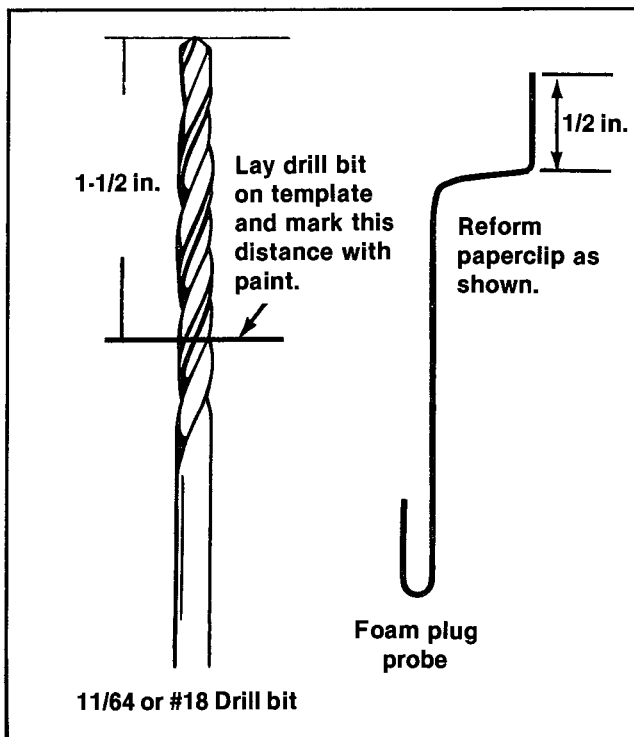

Figure 2. Template
11. See Figures 2 and 3. Saturate the foam plug with cleaning solvent. Using a common paper clip made from the template, push the foam plug into the existing bottom oil hole **no deeper than 1/2 inch** from the face of the bushing. Allow at least 15 minutes for the cleaning solvent to evaporate.
17. See Figure 2. Use a 11/64 in. or #18 diameter drill bit and mark with bright paint as shown on template. Use a hand-held electric or air powered drill. Hold the drill guide bushing firmly in place against the transmission. Carefully pilot through the hole in the drill guide bushing. Drill into the bushing and transmission case to the depth marked on the drill bit. Remove drill bit from the hole in the drill guide bushing. Remove drill guide bushing.